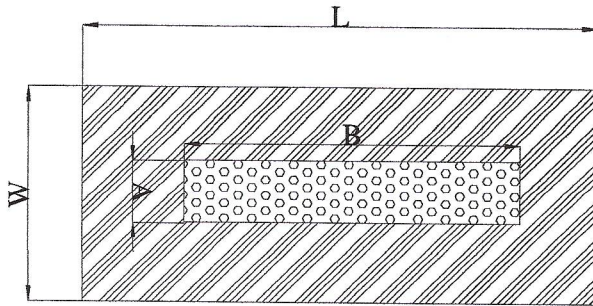
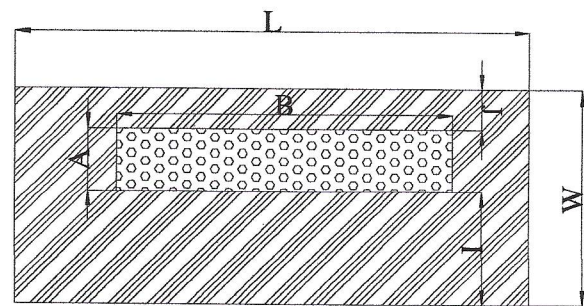

Figure 5A Level Site
Figure 5B One direction slope
For level sites, the total basal area, excluding end shape area [length of distribution cell (B) x width of fill and cover (W) beneath the fill and soil cover is available for effluent absorption into the soil (see Figure 5a).
For sloping sites, the available basal area is the fill and soil cover or (A + I) times the length of the distribution cell (B) (see Figure 5b.). The up slope width and end slopes are not included as part of the total basal area.
into the soil (see Figure 5a). For sloping sites, the available basal area is the fill and soil cover or (A + I) times the length of the distribution cell (B) (see Figure 5b.). The up slope width and end slopes are not included as part of the total basal area.